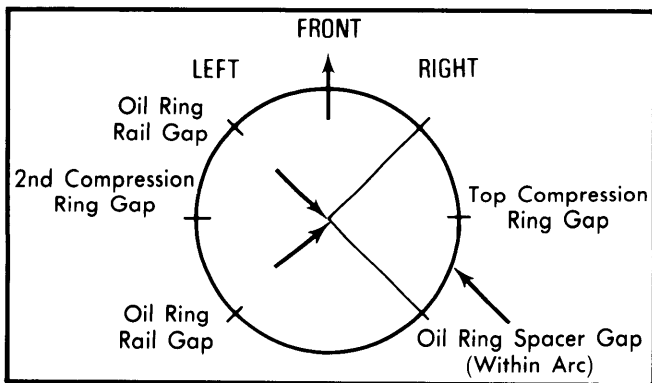

Fig. 5 Desired Ring Gap Location
3) To check fit of rings in cylinder bore, insert ring in cylinder bore and push ring into bore 2" with head of piston. Measure ring end gap with a feeler gauge. Before installing rings on pistons, ensure ring grooves are clean of carbon and inspect grooves for nicks or burrs. Install rings with gaps positioned as shown in Fig. 5.